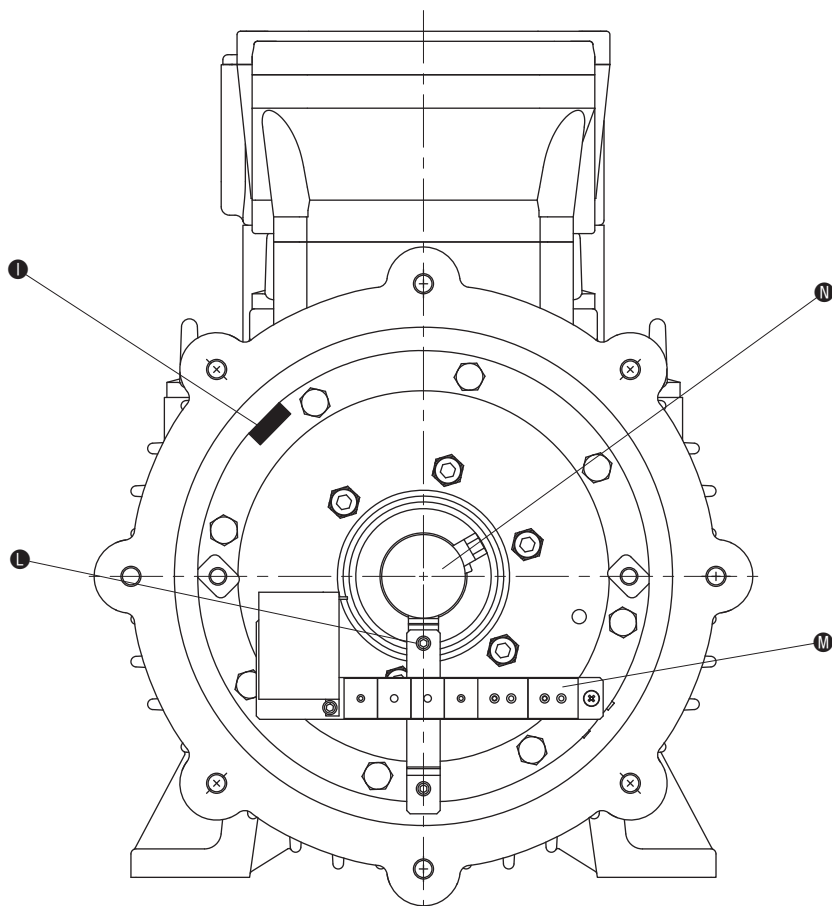

Fig. 4D
F) Replacement of the encoder and/or micro-switch (optional - figure 4D)